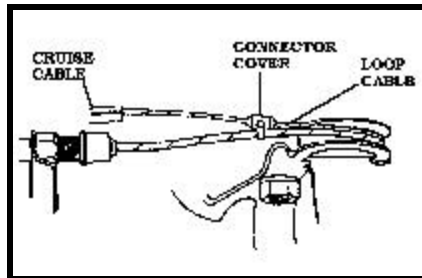

Figure 10
5. To secure the **LOOP CABLE** to the throttle cable, punch a small hole in the **CONNECTOR COVER** and slide the **TIE STRAP (102MM)** through the hole and secure to the throttle cable. **Figure 10**